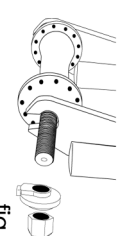

fig. 12c
c. The washer type is a hat-shaped washer which fits into a matching hole in the front fork dropout (fig. 12c).